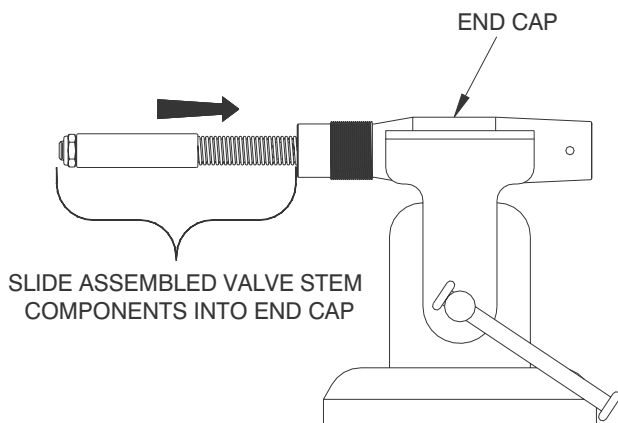

Figure 11-22. Slide Valve Stem into End Cap.
- a. Holding the Bias Spring (9) and Valve (7) in one hand, pull the Valve Stem (11) and its assembled components from the End Cap (17). Refer to Figure 11-22.
3. Refer to Figure 11-22, and slide the tapered and threaded end of the Valve